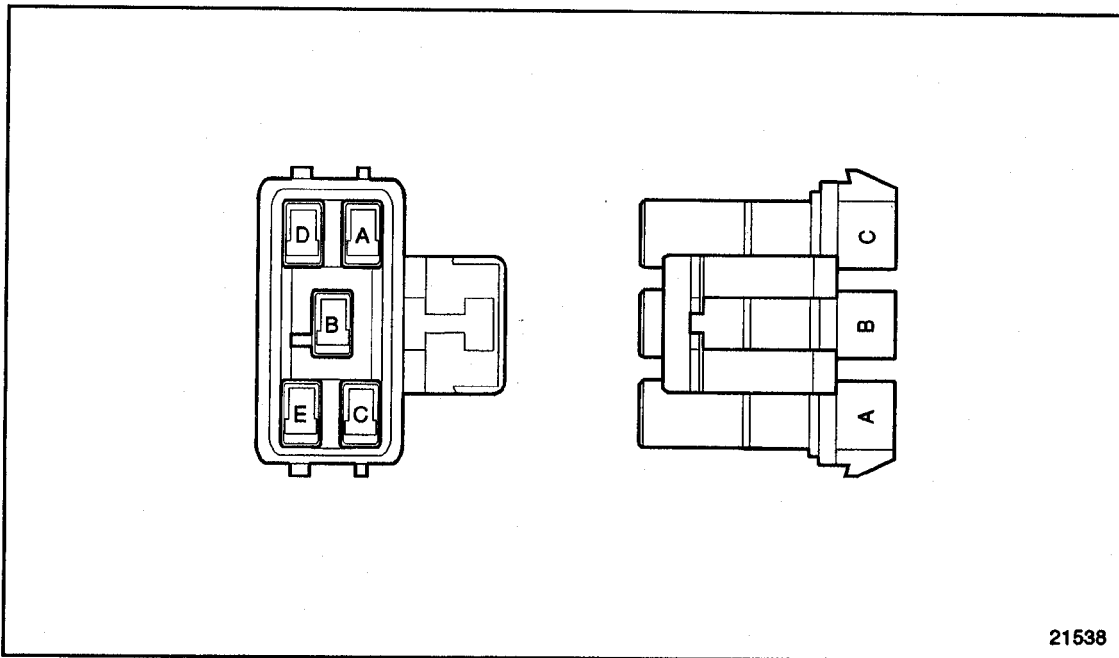

Figure 17-1 5-Way ECM Power Harness Connector
2. Disconnect the 5-way power harness connector; see Figure 17-1.